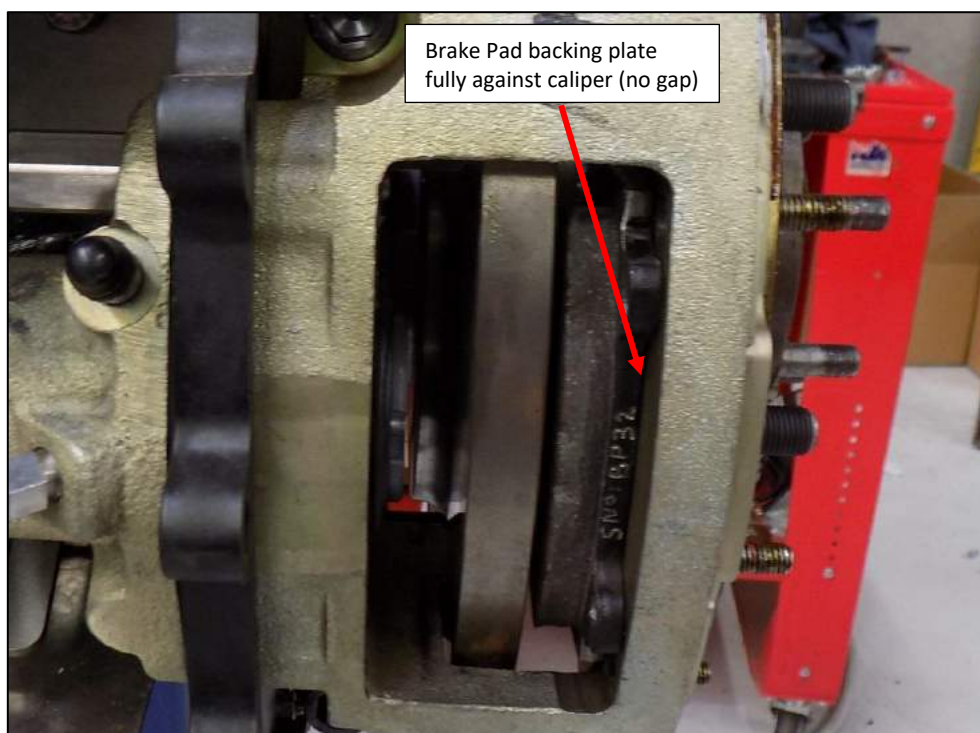

Figure 68
15. Install the outer brake pad, ensuring the location pin is aligned with the hole in the caliper. The brake pad backing plate should be fully and evenly against the reaction face of the caliper (Figure 68).